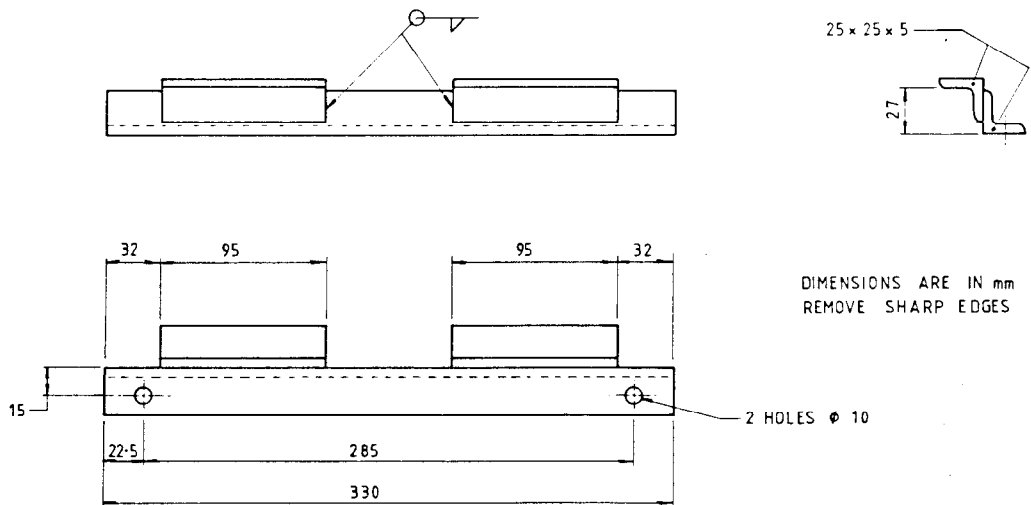

FIG 3 - NEW BATTERY CLAMPS
13. Manufacture new battery clamps as per Fig 3.